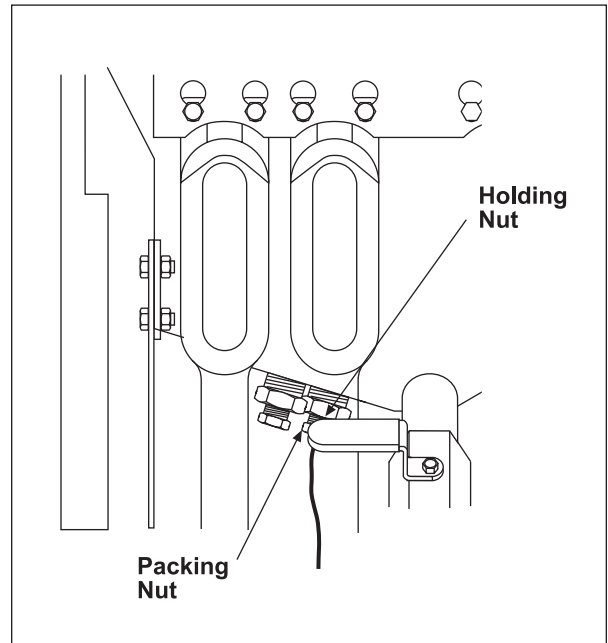

Figure 10
- Loosen the packing nut and the holding nut (Figure 10).